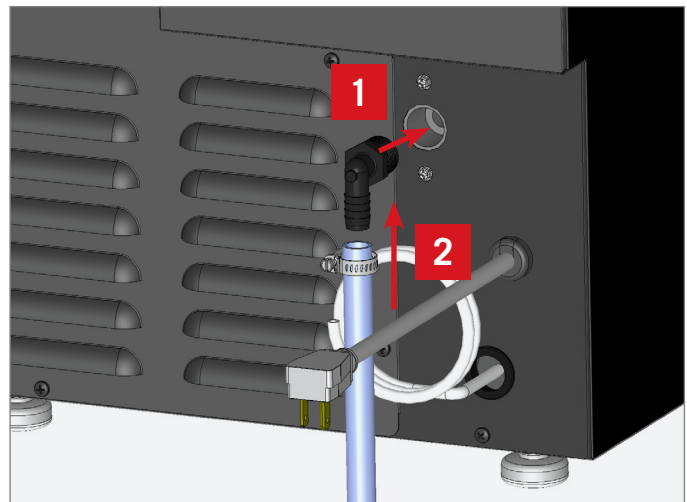

FIG. 1. Be sure to tightly clamp the drain line into the barbed fitting. Thread sealant required.
2. With the clamp on the hose, connect the clear drain hose to the barbed fitting. See fig. 1.